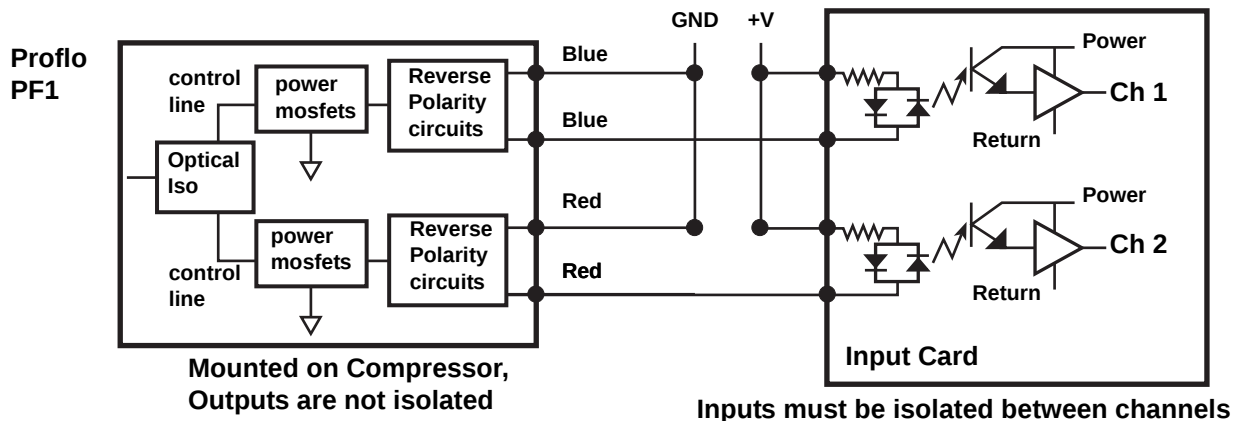

FIGURE 4-18 EXAMPLE DIAGRAM TO READ BOTH PULSE & ALARM CONTACTS
3. The Proflo PF1 alarm output, red wires, and the divider block cycle output, blue wires, are not isolated from each other. If it is necessary to read both Proflo outputs, the isolation must take place on the equipment that is reading the contacts. If the PLC input card is not isolated between channels both the alarm and pulse outputs will act as the alarm contact. These contacts must also be isolated from other inputs. See Figure 4-18